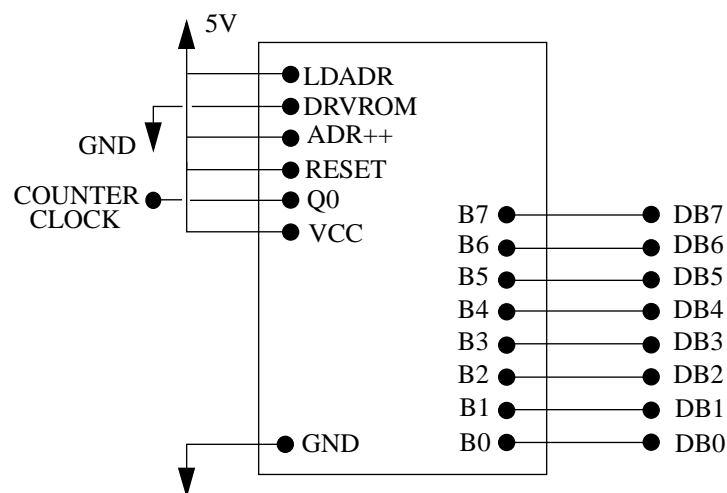

Figure 1: pin assignments for the printed circuit board that contains the counter and memory.
Figure 1 shows the pin assignments for the printed circuit board. The pins for the eight memory output data bits are on the right hand side. The pins for power and ground, and the clock input to the counter are on the left hand side. You should connect the
power pin to the 5-V power supply on the protoboard, and the ground pin to ground on the protoboard. There are also four counter and memory control pins which must be connected to the 5-V power supply and ground as shown in Figure 1.
- (4-5) Connect the eight data-bit inputs of the digital-to-analog converter to their corresponding data-bit outputs from the memory; refer to Figure 1 for the memory pin assignments. With the oscilloscope, observe the converter output v_{DAC} . You should see an audio signal reconstructed in a piecewise constant manner. Adjust the offset voltage v_{OFF} so that the